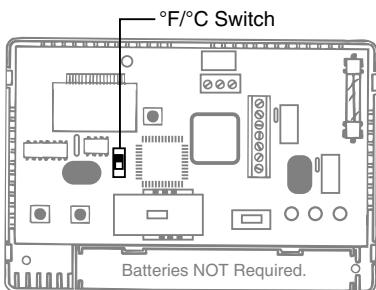

Figure 5
- Put the °F/°C switch to either °F for Fahrenheit display or °C for Celsius display (see Figure 5).